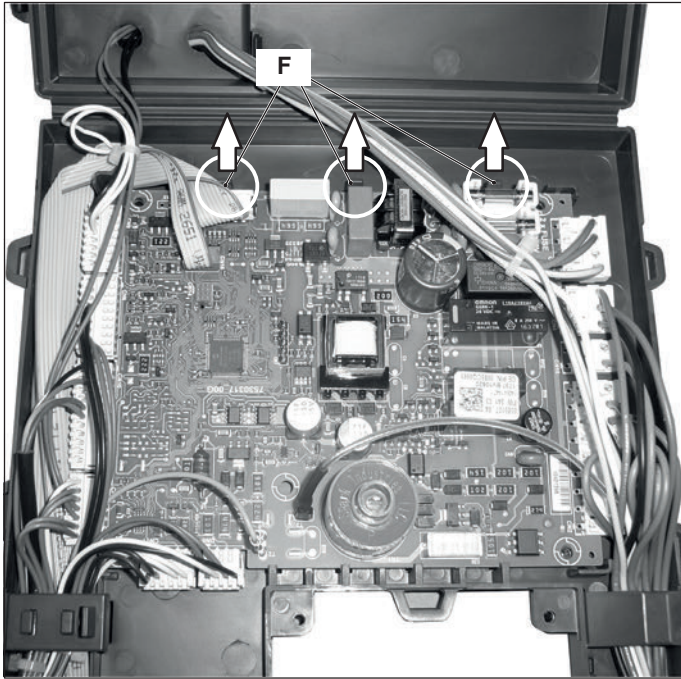

Figure 9.13
- 4 Delicately flex the hooks "F" in the directions indicated (Figure 9.13) in order to release the circuit from the box.